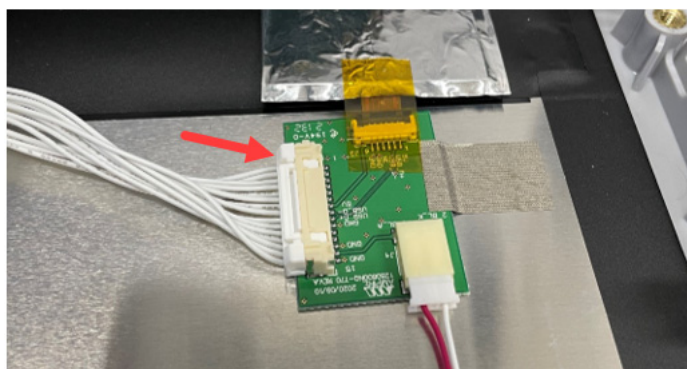

Figure 3-13. Disconnecting Keypad Cable Connector
- Carefully tilt the Main PCB/SPA PCB assembly to remove the keypad cable connector by slightly pressing it at the ends and disconnecting it from the LCD top case assembly. See Figure 3-13.